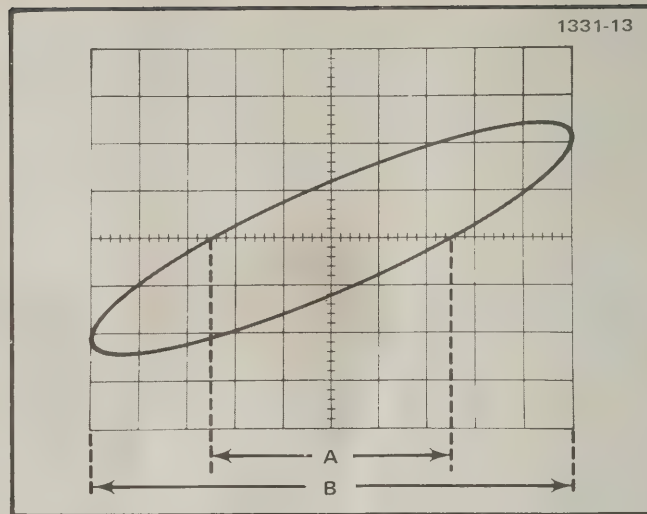

Fig. 11. Phase-difference measurement from an X-Y display.
3. Position the display to the center of the screen and adjust the CH 1 and CH 2 VOLTS/DIV switches to produce a display less than six divisions vertically (Y) and less than 10 divisions horizontally (X). The CH 2 VOLTS/DIV switch controls the horizontal deflection (X) and the CH 1 VOLTS/DIV switch controls the vertical deflection (Y).
4. Center the display in relation to the center graticule lines. Measure the distance A and B as shown in Fig. 11. Distance A is the horizontal measurement between the two points where the trace crosses the center horizontal line. Distance B is the maximum horizontal width of the display.